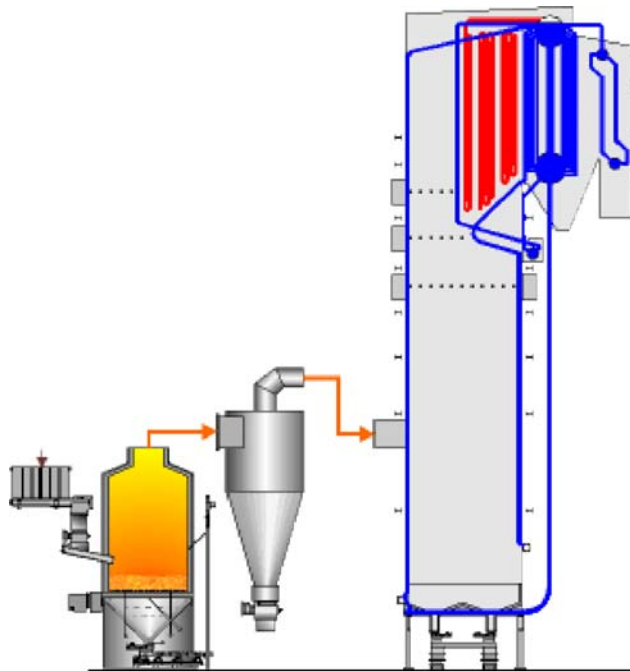

Figure 4
*Replacing Coal With An External Fluidized Bed Gasifier (Figure 4)*